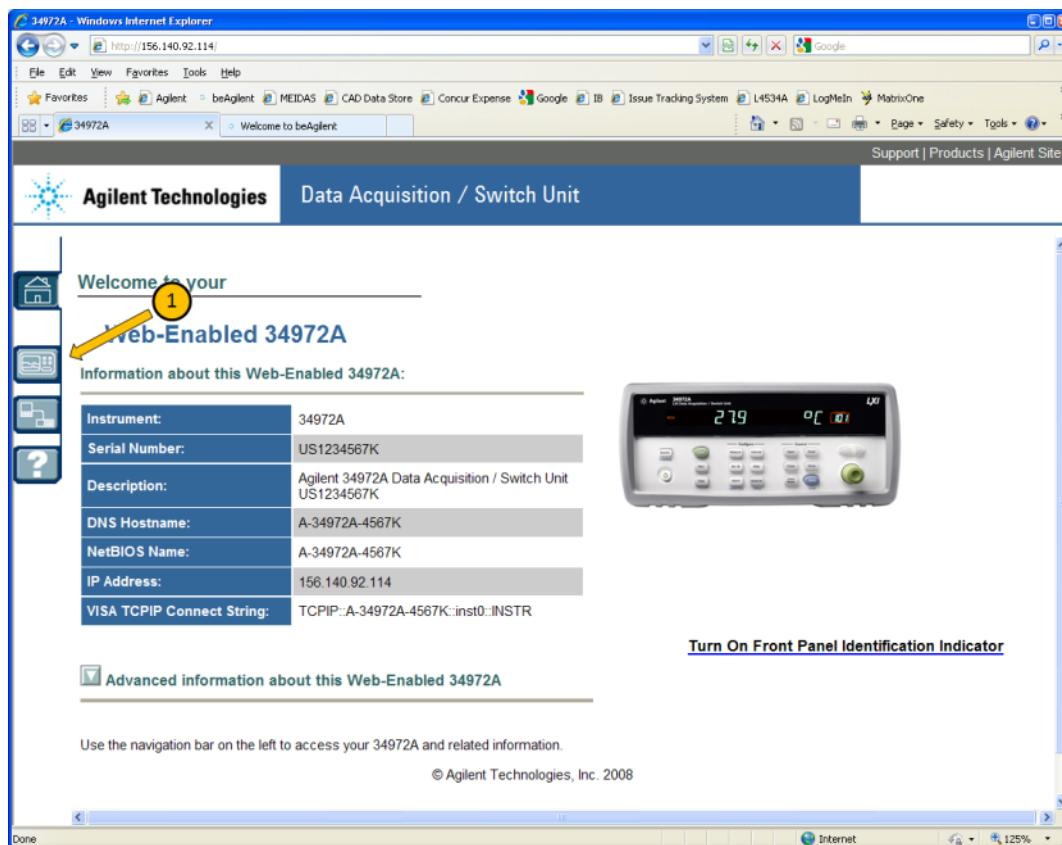

Figure 6, 34972A web-server homepage
Open up your Web browser and type in the IP address of the 34972A. The 34972A homepage will open as shown in figure 6. Note the buttons on the far left of the screen. Using the cursor, hover over the buttons to see specific functions for each button. Click on the second button from the top (1) to access the **Remote Control** window. The remote control feature uses Java, and it may take several seconds to half a minute for Java to start (Java is available for free at www.java.com).